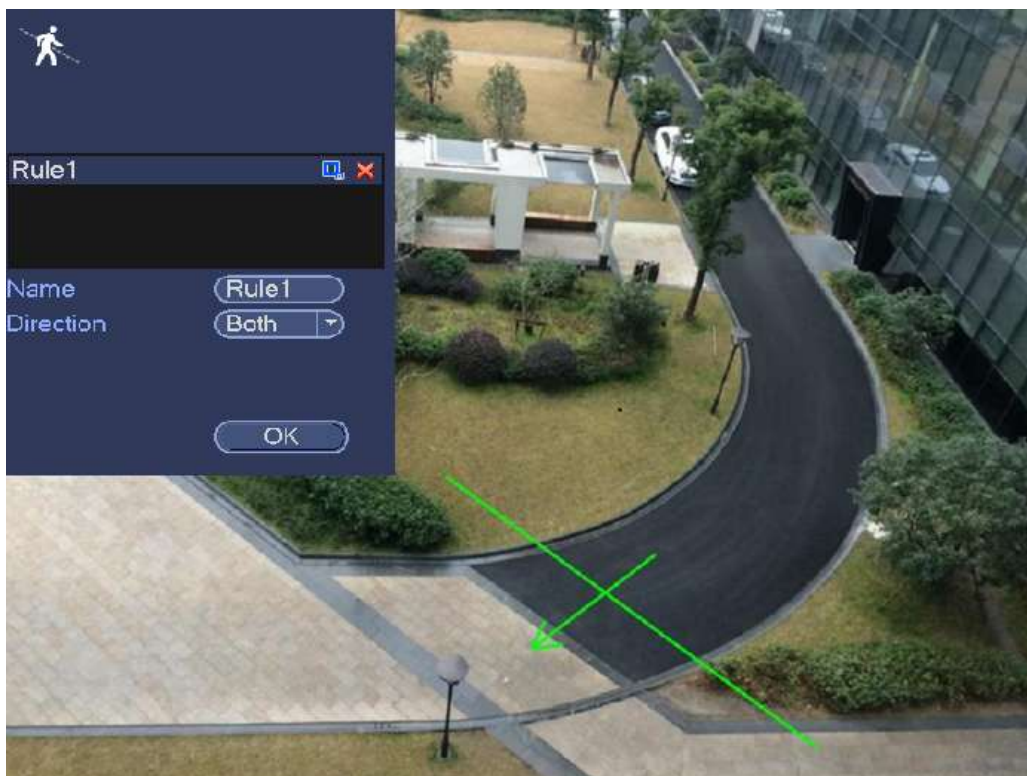

Figure 4-146
1. Click Draw button  to draw the tripwire. See Figure 4-146.